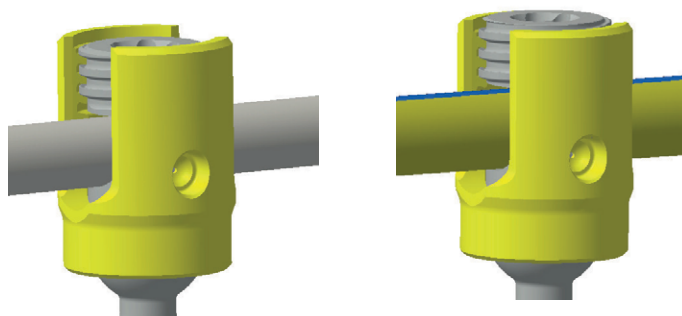

Fig. 41
- ▶ Visually double check that the set screw is fully seated. When using a  $\varnothing$  3.5 mm rod, the set screw is located below the top of the polyaxial screw tulip after final tightening, as can be seen on the left side of the image, see Fig. 41. When using a  $\varnothing$  4 mm rod, the set screw is located plane with the top of the polyaxial screw tulip after final tightening, as can be seen on the right side of the image, see Fig. 41.